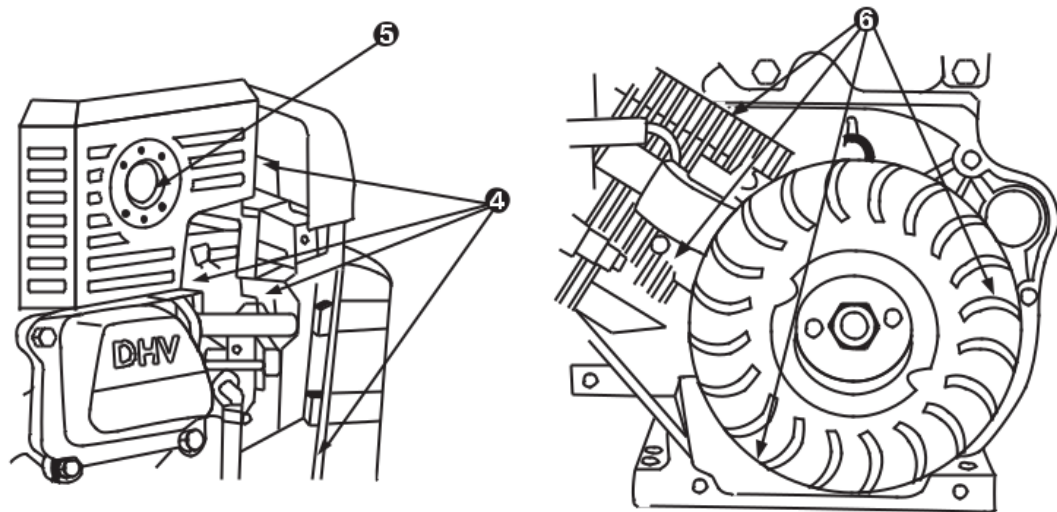

**Figure-13 Air Filter Assembly**
- Unscrew the filter attachment screws (A). **See Figure-13.**
- Carefully remove the pre-cleaner and wash it with liquid detergent and water. And then Squeeze dry in clean cloth (DO NOT TWIST). (B). **See Figure-13.**